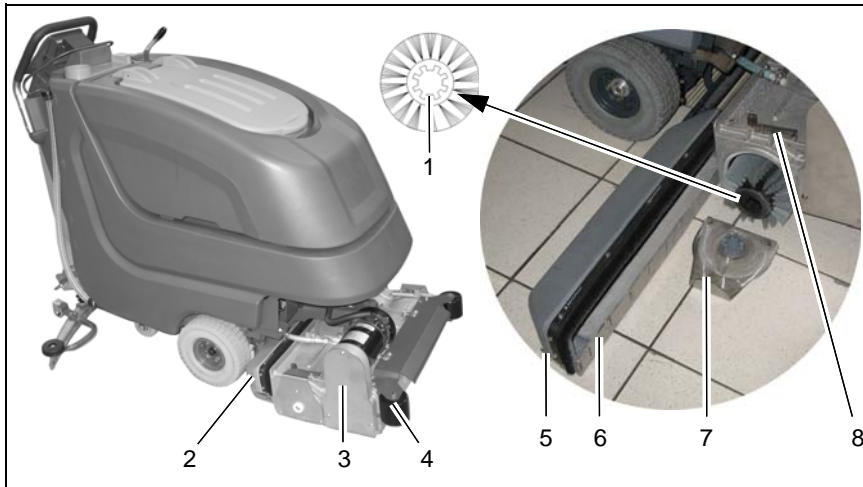

Fig.11
Clean dirt hopper (Fig. 11/2) at daily intervals or as required.
Remove dirt hopper from the right machine side (seen in direction of travel). Use quick-release (Fig. 11/5) to loosen feed inlet (Fig. 11/6) and clean dirt hopper.
1. Release brush seating (Fig. 11/7) by locking lever (Fig. 11/8).
1. Insert brush into brush deck and let it catch (brush tooting (Fig. 11/1)) as to point to the outside).
Check deflector rollers (Fig. 11/4) at weekly intervals and replace if required.